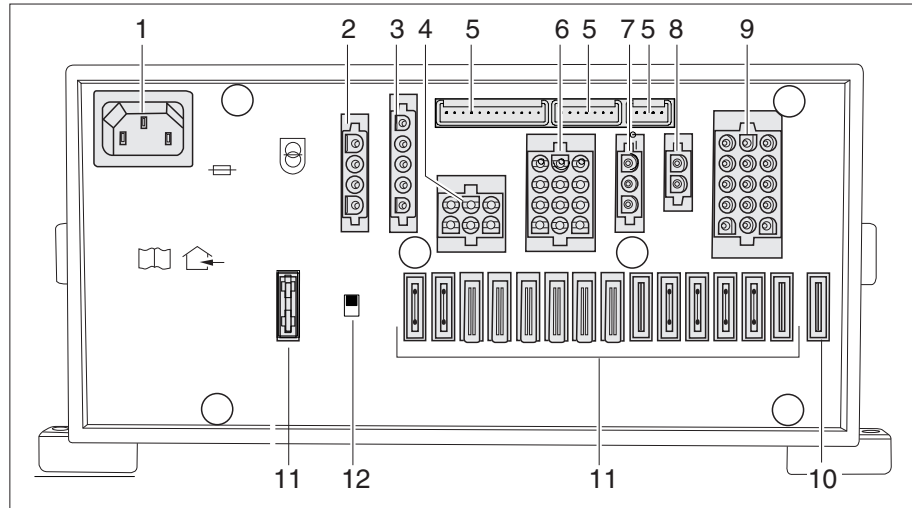

Fig. 262 Transformer/rectifier (EBL 111)
- ▷ The battery cut-off switch (Fig. 262,12) disconnects all the appliances that are connected to the transformer/rectifier from the 12 V network.